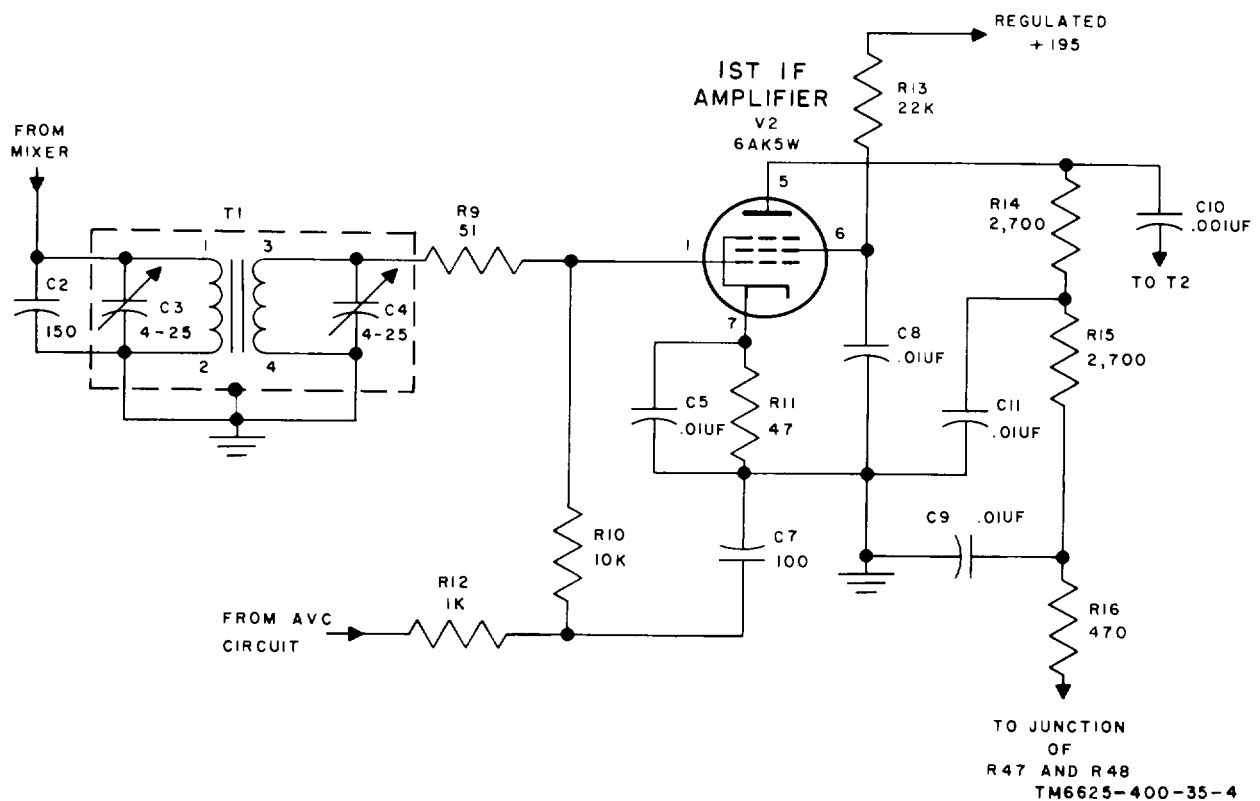

Figure 4. First if. amplifier, schematic diagram.
Figures 4 through 8 are simplified schematic diagrams of if. amplifier stages V2 through V6. The five stages of amplification form a high-gain, wide-band circuit
a. Tube V2 (fig. 4) is the first if. amplifier. The signal input is coupled through T1 to the grid of V2. Capacitor C2 along with trimmer capacitor C 3 tune the primary of T1; C4 is the trimmer for the secondary. Resistor R9 suppresses parasitic oscillations. Resistor R10 is the grid return to the avc supply. Avc decoupling is obtained through R12 and C7. Operating bias for V2 is obtained by the voltage drop across R11. The screen voltage-dropping resistor is R13. The plate load resistor for V2 is R14. Resistors R15 and R16 and capacitors C 9 and C 11 form a plate decoupling circuit. C a p a c i t o r C8 is the screen grid bypass capacitor and C5 is the cathode bypass capacitor. Inductor L13 and capacitor C6 (fig. 32) form the filament